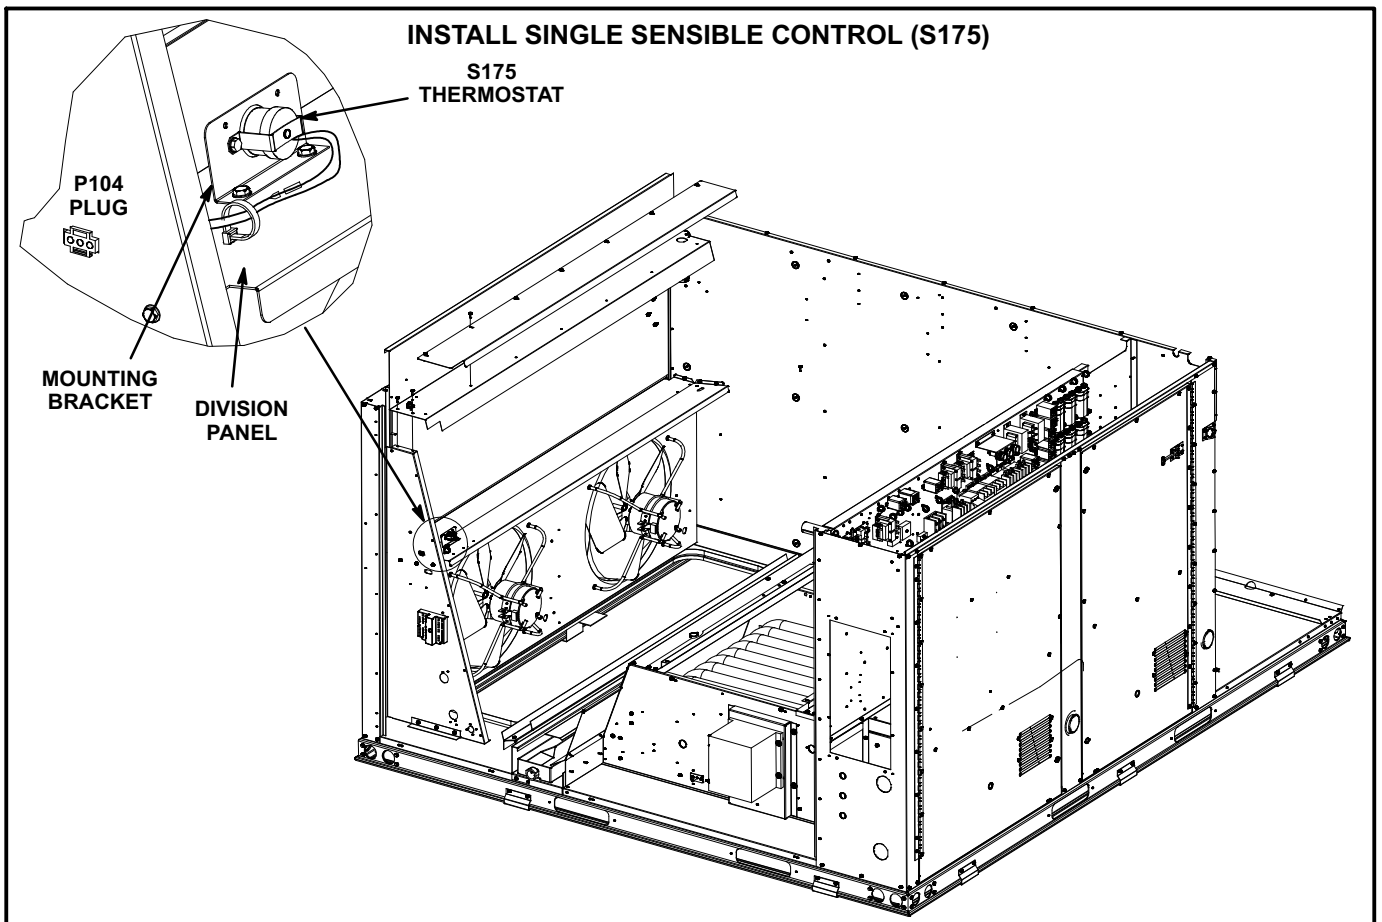

FIGURE 6
- 2- Install mounting bracket on divider panel as shown in figure 6.
- 4- Insert P104 plug into the side of the economizer as shown in figure 6.